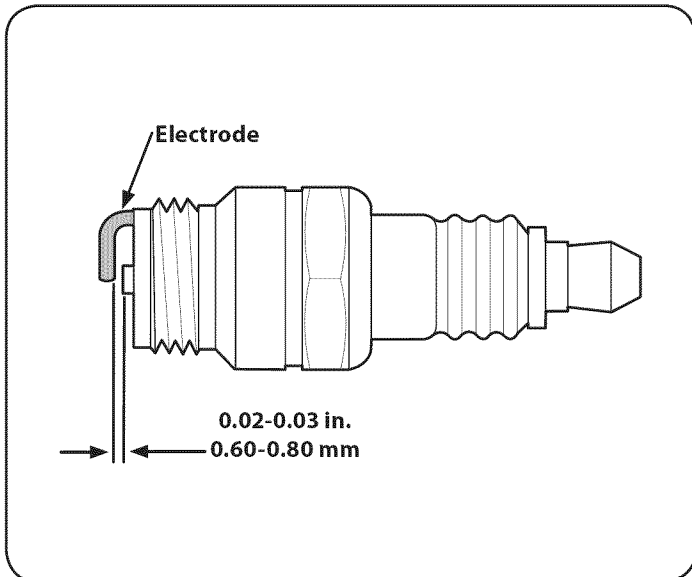

Figure 22
3. Measure the plug gap with a feeler gauge. Correct as necessary by bending side electrode. See Figure 22. The gap should be 0.030".